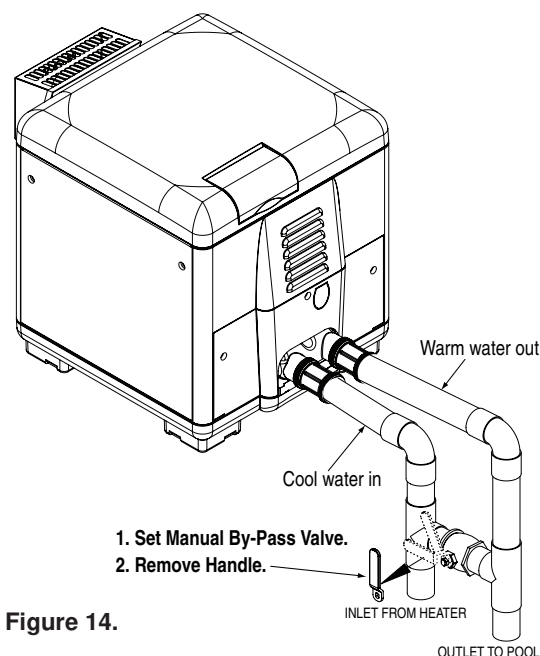

Figure 14.
Where the water flow rate exceeds the maximum 265 LPM, a manual bypass should be installed and adjusted. After installing the valve, adjust the valve to bring the flow rate within the acceptable range. Then remove the valve handle or lock it in place to avoid tampering. See Figure 14.
2. Loosen the small screw inside the pressure tap as shown in Figure 14.